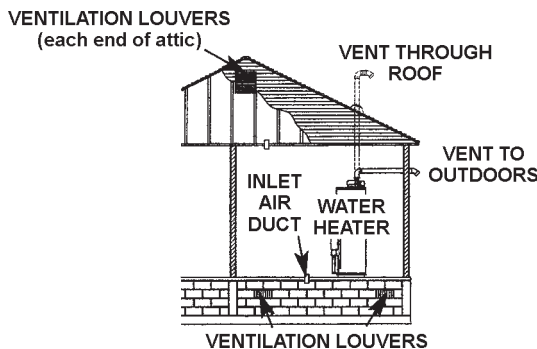

FIGURE 13.
B. ALL AIR FROM OUTDOORS: (See Figures 13, 14 and 15)
1. When directly communicating with the outdoors, each opening shall have a minimum free area of 1 square inch per 4,000 Btu per hour (5.5 cm²/kW) of total input rating of all equipment in the enclosure, see Figure 13.